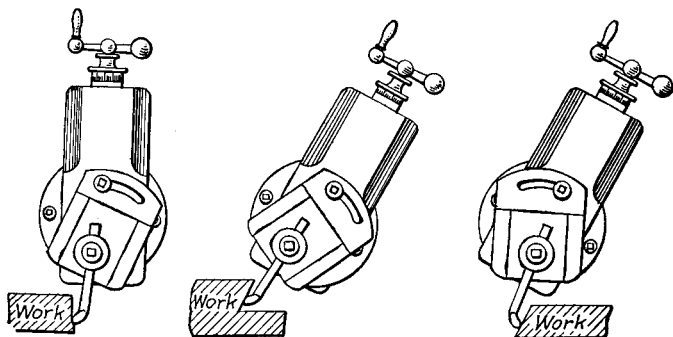

Fig. 2-45. Note that in each case the top of the apron is set over in a direction away from the surface being cut.
Except in the case of cutting off or a similar operation, or where the surface being machined is not much over  $\frac{1}{4}$  in. deep (or high) it is very necessary to swivel the apron when using the downfeed. This is illustrated in Fig. 2-44. When the top of the apron is moved in a direction *away* from the surface of the cut, the tool block and the tool will hinge in a direction up and *away from* the work during the return stroke. This is true in angular (bevel) cuts as well as vertical cuts (see Fig. 2-45).
6. The head of the shaper may be swiveled as shown in Fig. 2-45.
Attention is called to the setup of the shaper (or planer) for the downcut for producing either a vertical cut (*a*, Fig. 2-45) or an angular cut *b* or *c*, in the same figure.